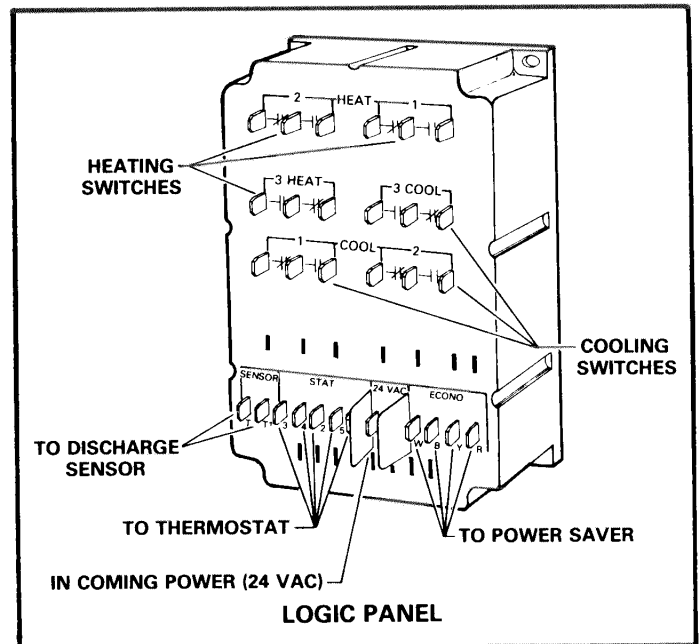

FIGURE 4
- 4 - Different logic panels are used for the necessary switching as determined by the application. Figure 4 identifies all the switches and terminals used on logic panels. All logic panels perform to the heating and cooling ramp charts.